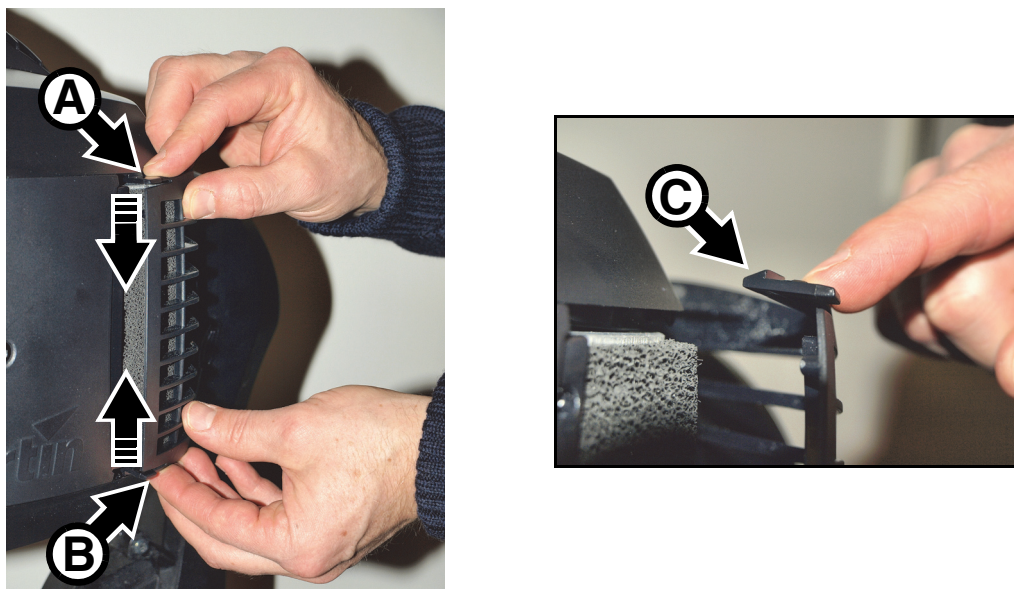

Figure 8: Releasing head air filter covers
2. See Figure 8. Remove the head air filter covers from the back of the head by pressing clips **A** and **B** towards the center of the head until the latch **C** is free, and then unhooking and lifting the covers away from the head.